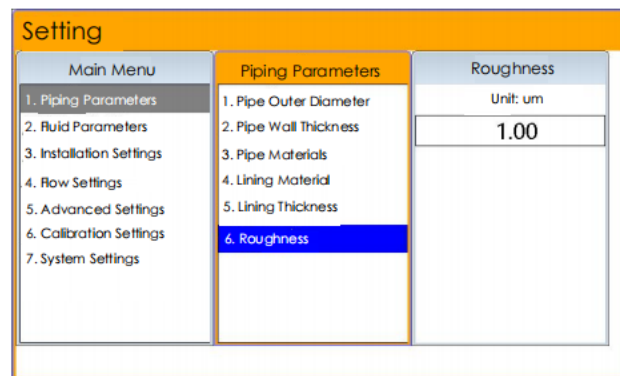

Figure 10 Pipe Roughness Setting
6) Press  to select "Roughness", and then press  to enter the Roughness edit box, enter the pipe roughness, and then press  to save and return to the menu bar (Figure 10).